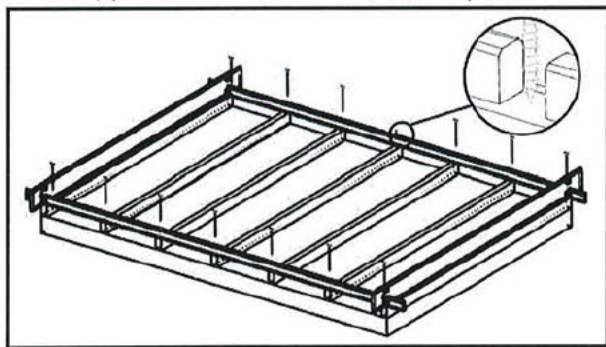

FIG 2
2. 28,34 44 70 log buildings The external walls parallel to the joists have two joists as in fig2 and need to be fixed together using 70mm nails at a slight angle. This also applies to partition walls.
2. Firstly position the half logs as shown (fig 2) on top of the floor bearers
3. Next position 2 logs from the adjacent sides either end of the half logs. Fig 2
6. Start at the front with the groove facing the front and Lining up with roof beams (fig2). Bevelled corner down outer roof face flat.